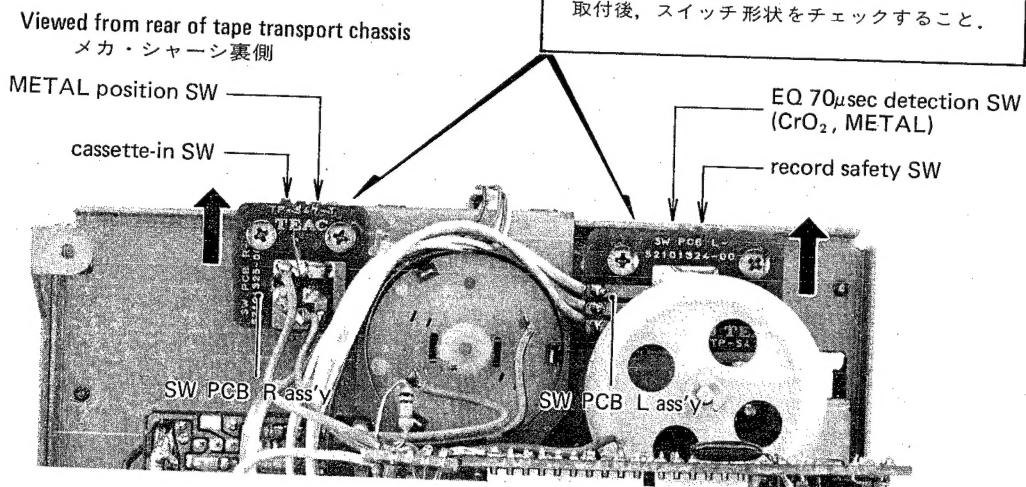

Fig. 4-4
1. When remounting SW PCB L ass'y* or SW PCB R ass'y* is required, push it (them) as far upward (as shown by the arrows) as possible. Afterwards, check that each of PCB-mounted leaf switch shape is normal (Fig. 4-4's A), then proceed to the next steps.
1. SW PCB L ass'y* 又は SW PCB R ass'y* を再取付の場合は、できるだけ上方(図の矢印方向)に取付ける。取付後、リーフ・スイッチに変形がないこと(図4-4のA)を確認してから次項以降のチェックをする。